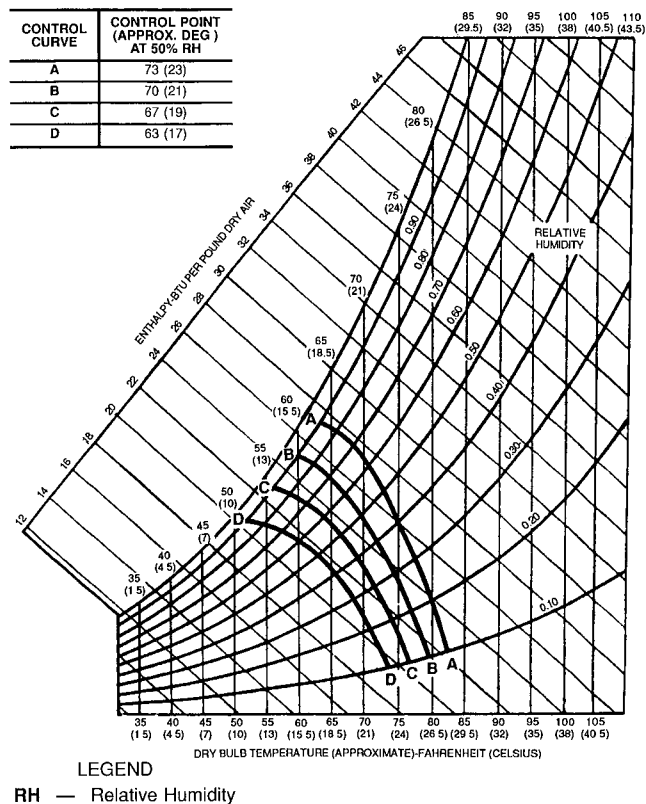

Fig. 25 — Enthalpy Settings for PARABLADE Economizer
6. Determine the enthalpy changeover set point from Fig. 25. The enthalpy changeover set point should be set to return the outdoor-air damper to the minimum position when enthalpy rises above the set point. The settings are A, B, C, and D. Set the enthalpy changeover per the setting in Fig. 25.